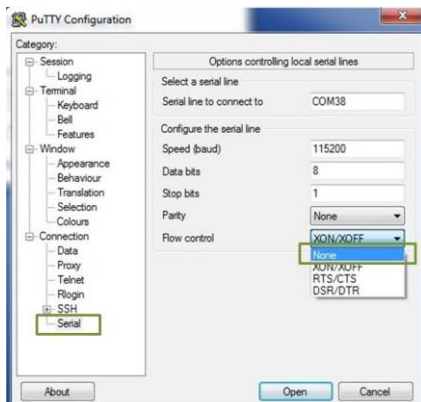

Figure 7: PuTTY Configuration - 1
2. Under “SSH”, select “Serial”. Under “Flow control” pull-down menu, select “None” (refer to Figure 7).